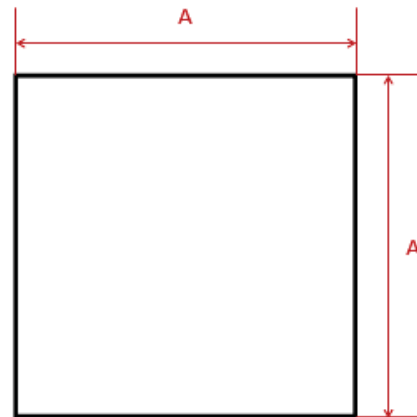

Figure 1.1
2. Confirm inlet air supply size. Use Table 1.1 and Figure 1.1 to find the correct square dimensions per model size.